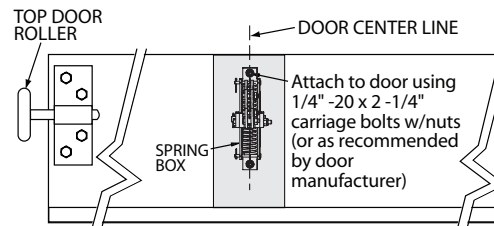

Figure 12
- 2) Position the spring box on the door as shown in **Fig. 12**, with mounting holes on the door centerline. (Even with or above top door roller).